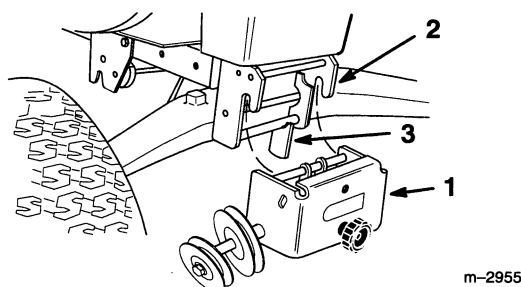

Figure 9
8. Place pulley assembly into front hitch and lock by moving latch rearward (Fig. 9).